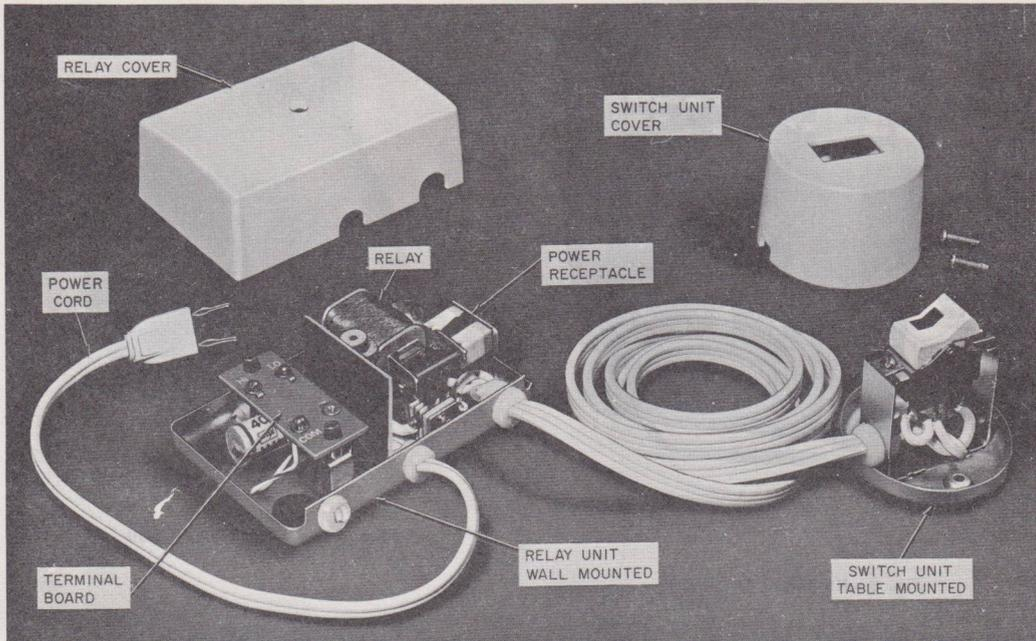

Fig. 7—KS-20614 Relay Switch
3.11 KS-20614 Relay Switch (Fig. 7 and 27)